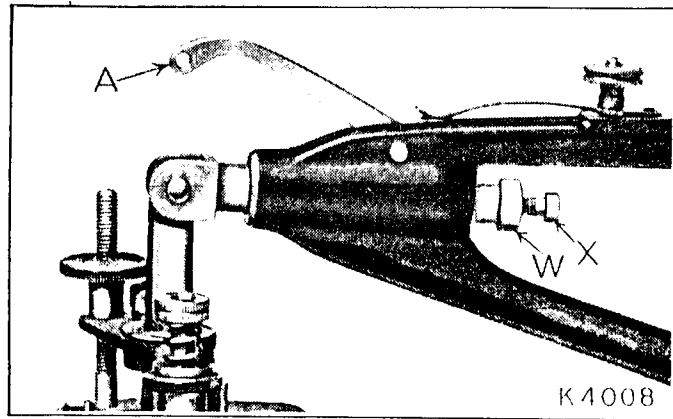

Fig. 17.
The travel of the take-up lever (A, Fig. 17) is set at the factory for average conditions, but if this adjustment should be disturbed, the correct amount of travel can be obtained by loosening lock nut (W) and turning the screw (X) to the right to decrease the travel or to the left to increase it. Hold the screw (X) while tightening the lock nut (W).